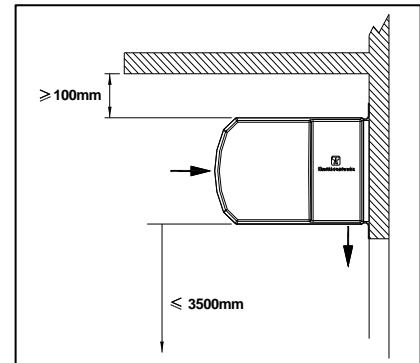

Fig. 1
- at least 100mm clearance (air gap) above electric/water heated air curtains, see Fig 1